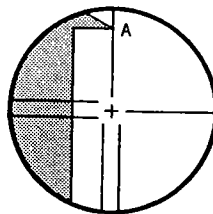

Fig. 111
- 1) Select and sight a clear target on the upper part A of the vertical reticle line, Fig. 111.